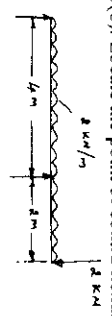

Fig. Q5(b)
- b. Draw the shear force and bending moment diagrams for the overhanging beam carrying uniformly distributed load of 2 kN/m over the entire length and a point load of 2 kN as shown in Fig. Q5(b). Locate the point of contra flexure. (14 Marks)